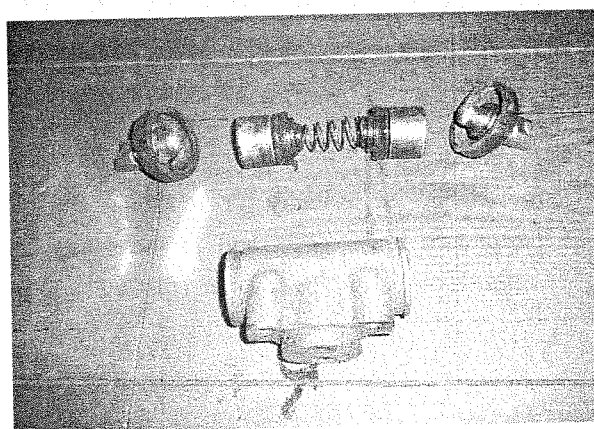

Fig 7-14
(6) Remove the E-shaped retainer ring that fastens the brake cable onto the bottom plate, then remove the mounting bolts on bottom plate, and detach the bottom plate from the axle. (Fig 7-14)
(7) Remove the shield for wheel cylinder, and push out all the parts inside the cylinder (Fig 7-14)